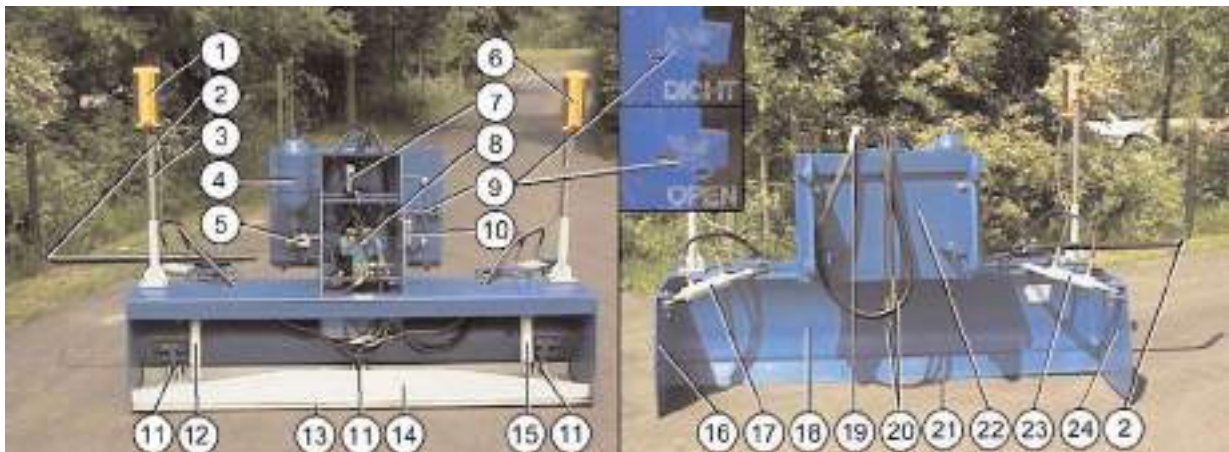

FIGURE 1: NAME OF THE PARTS
Inspect the operation of the transport locking mechanism (see Fig. 1, no. 9).
- Place the coupler of the towing vehicle under the projecting edge on the coupling plate of the leveller so that all the boltholes are opposite each other (see Figs. 1 and 4).